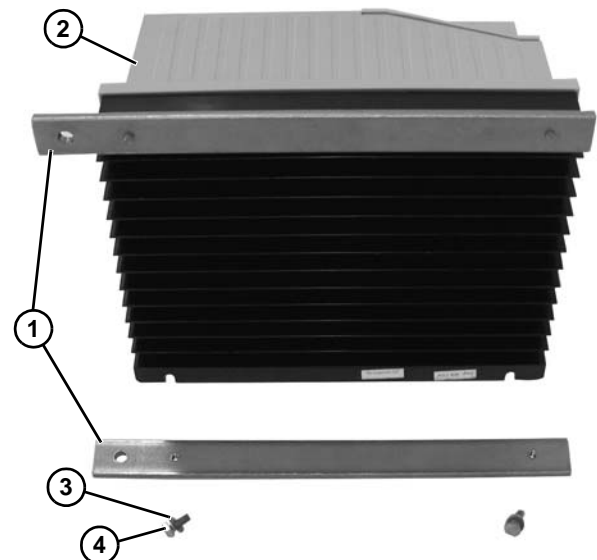

Figure 15
- Attach mounting plates (Figure 15, item 1) to controller (Figure 15, item 2) with washers (Figure 15, item 3) and screws (Figure 15, item 4).